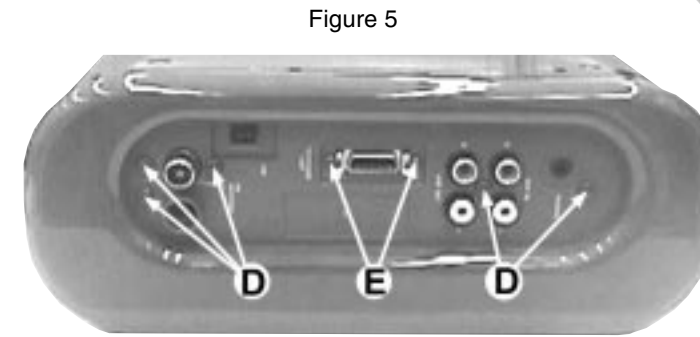

Figure 5
- 1) Remove 5 screws D and 2 screws E (see Figure 5) to loosen the Cover Orn Rear (pos 119).